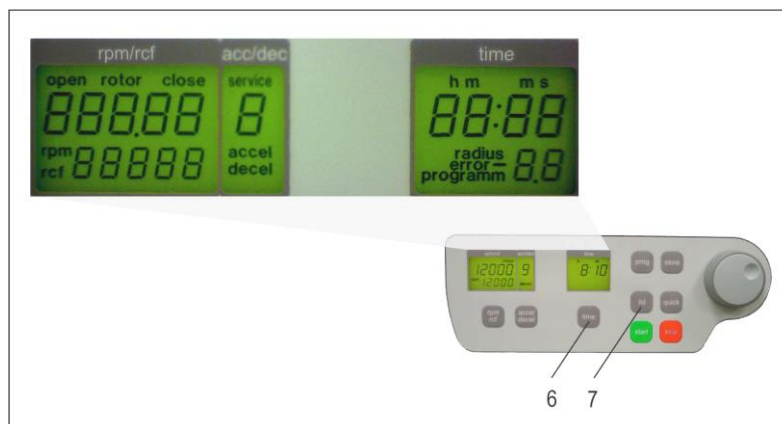

Figure 2
If the centrifuge is still turned off, press the keys, "time" (6) and "lid" (7) simultaneously, turning on the main switch of the centrifuge. Now release both keys. As a result, a display test is administered for approx. 5 seconds. All possible indications will appear at the same time (see Figure 2).